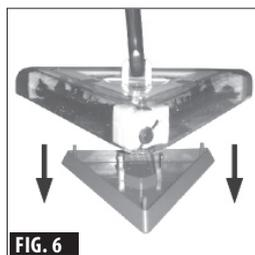

FIG. 6
- Then, place the "Dirt Tray" back on the floor or other flat surface. Lift up and align the "Base" of the sweeper over the "Dirt Tray". Properly aligned, the weeper logo on the front of the "Base" of the unit will face in the same direction as the Peak/Front of the dirt tray. Set the "Base" down to correct (see FIG. 6).